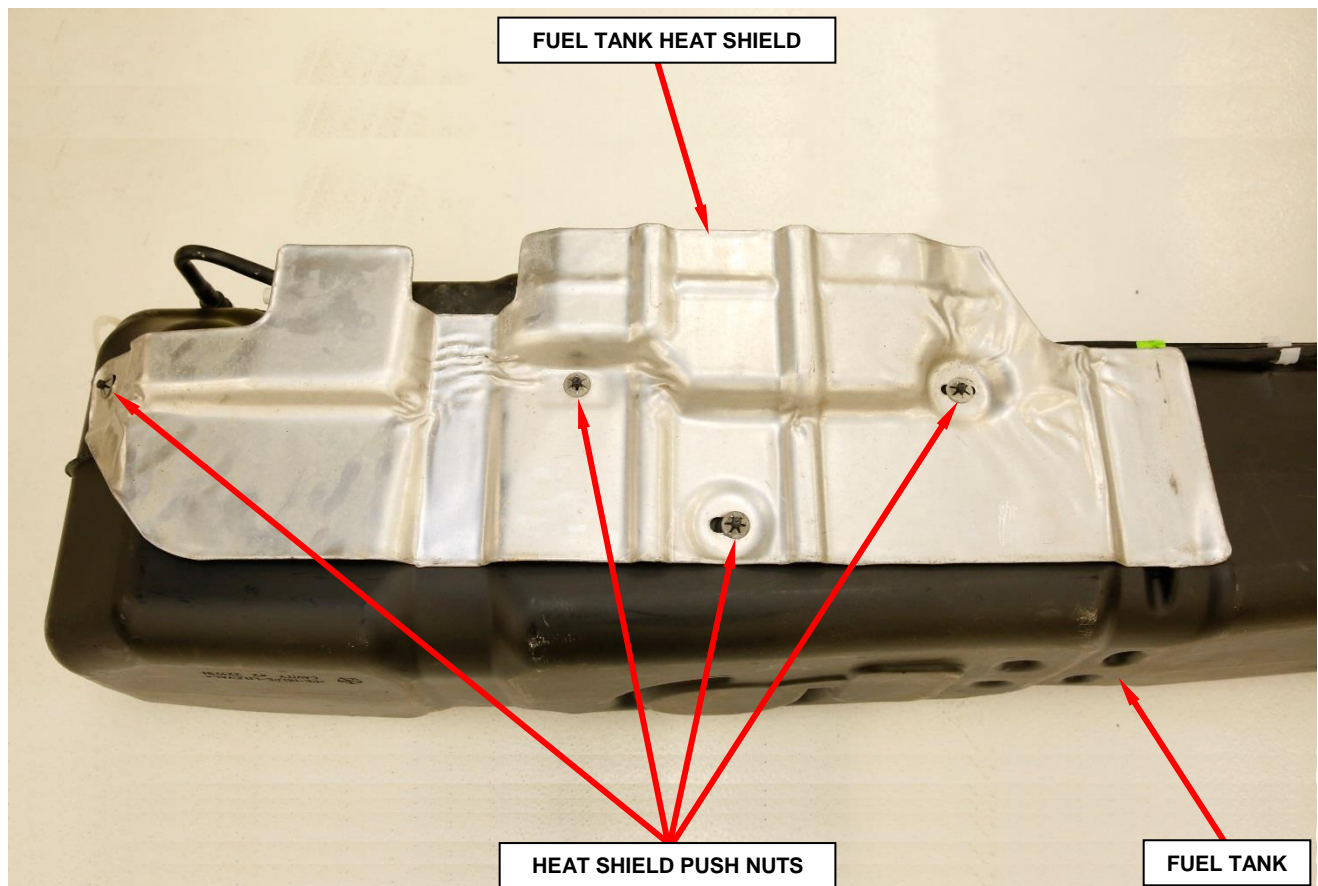

Figure 16 – Fuel Tank Heat Shield
40. Remove and **discard** the four push nuts securing the fuel tank heat shield (Figure 16).
41. Remove and save the fuel tank heat shield (Figure 16).
62. Position the fuel tank heat shield to the fuel tank (Figure 16).
63. Install four **NEW** push nuts securing the fuel tank heat shield to the fuel tank (Figure 16).